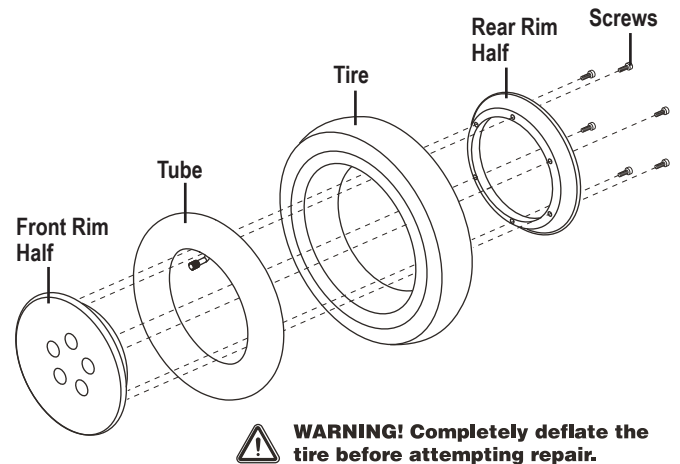

Figure 14. Drive Wheel Disassembled
6. Remove the screws and separate the front and rear rim. **See figure 14.**
10. Reinstall the five (5) lug nuts onto the wheel hub and tighten.